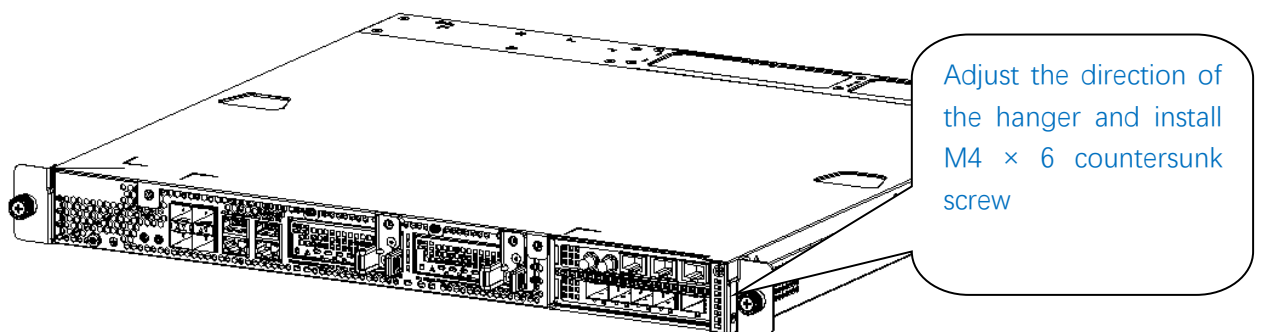

Figure 3-7 Installation diagram of hanger for guide rail
Step 1: Take the AU equipment out of the package and install the hanger for the installation of the supporting guide rail on the AU, as shown in Figure 3-7 Installation diagram of hanger for guide rail.